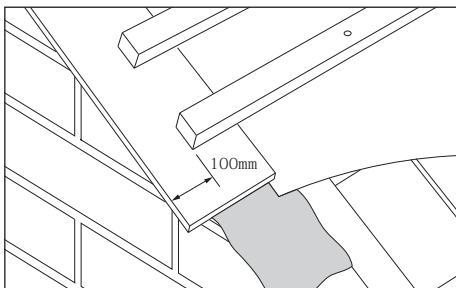

Fig. 9 – Undercloak using fibre cement strip
- 5 Strike off bedding mortar and neatly point in one operation (see Fig. 9).